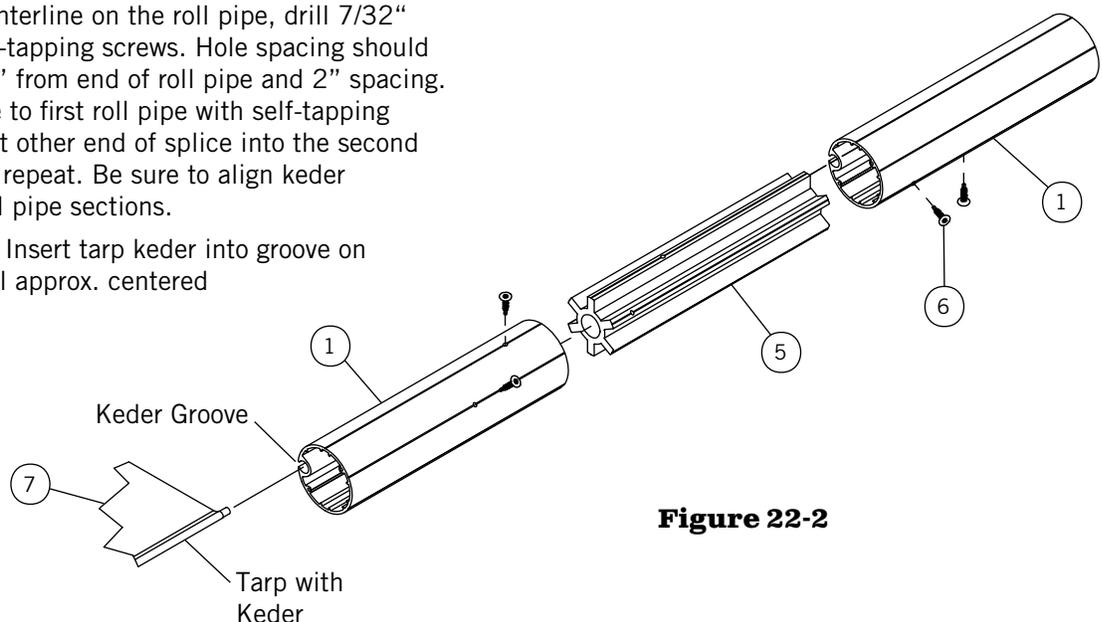

Figure 22-2
- 2) **Figure 22-2.** If you are using a single-piece roll pipe, please jump to the next step. Insert roll pipe splice halfway into first roll pipe (approx. 6"). Using the centerline on the roll pipe, drill 7/32" holes for self-tapping screws. Hole spacing should be approx. 2" from end of roll pipe and 2" spacing. Fasten splice to first roll pipe with self-tapping screws. Insert other end of splice into the second roll pipe and repeat. Be sure to align keder groove on roll pipe sections.
- 3) **Figure 22-2.** Insert tarp keder into groove on roll pipe until approx. centered along length.